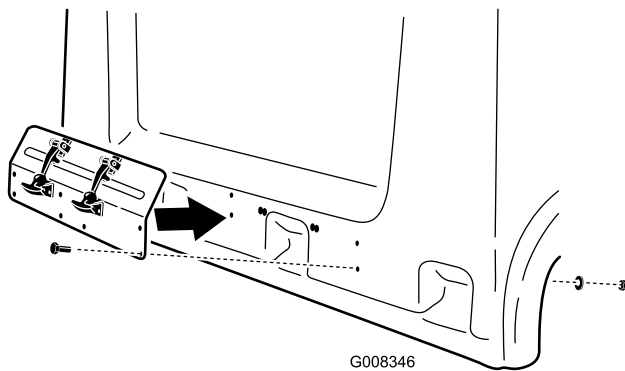

Figure 8
8. Secure the mounting plate to the hood with (4) 1/4 x 3/4 inch screws and locknuts (Figure 8).